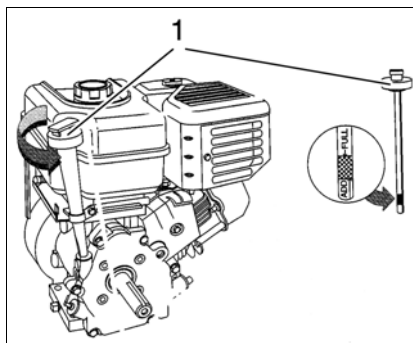

Fig. 20 Engine oil level check
- Unscrew plug (Fig. 20/1) with dipstick.